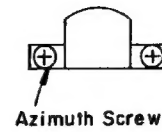

Fig. 5
| Playback the azimuth tape.QZZCAC (10 kHz $\sim$ 20 dB) | $\nabla \dots (+)$$\nabla \dots (-)$ | Across headset$\nabla \dots (+)$$\nabla \dots (-)$ | Azimuth Screw(Refer to Fig. 5) | Adjust for same reading on ACvoltmeter① and ②. |